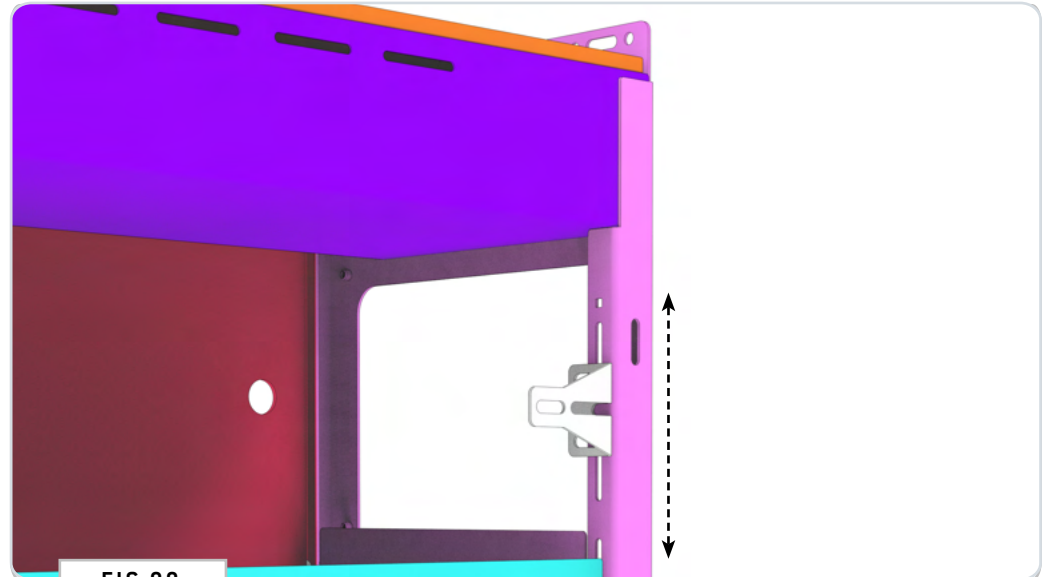
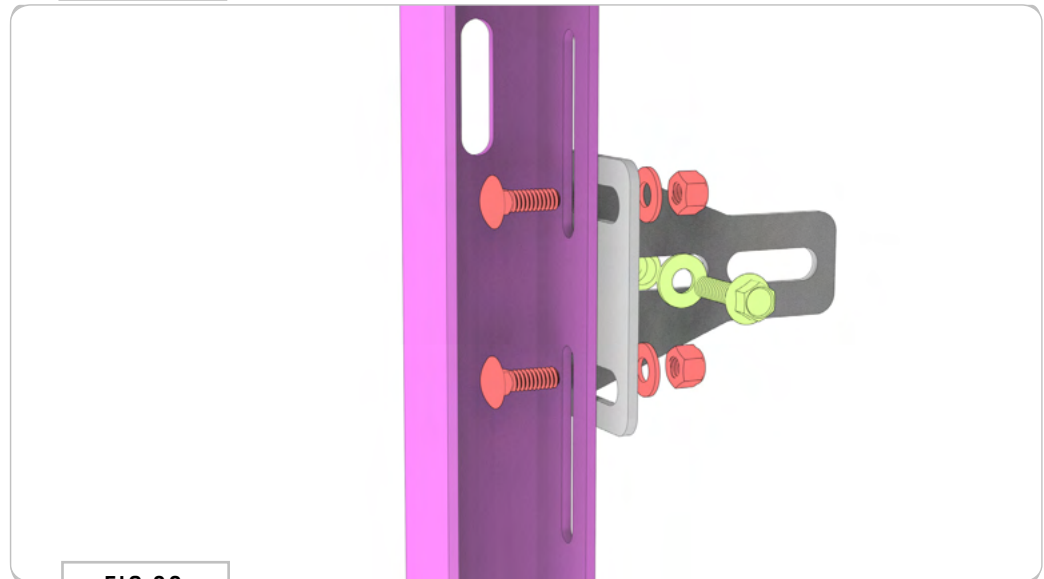

FIG 88
FIG 89
**7.1 Attach Hinge and Table Side Cabinets to Van Walls:** Dry fit the **Mounting Brackets** to the available slots along the **Left and Right Cabinet Ends** for both the **Hinge and Table Side Cabinets** and mark your locations for drilling (**FIG 88**). Drill out your holes with a 25/64" Drill Bit, set your **Rivet Nuts** and secure to the **Cabinet** using (2) 1/4-20 x 0.75 **Square Neck Carriage Bolts**, **Flat Washers** and **Nylon Locknuts**. Secure to set **Rivet Nuts** using 1/4-20 x 1 **Flanged Hex Head Screws** (**FIG 89**).